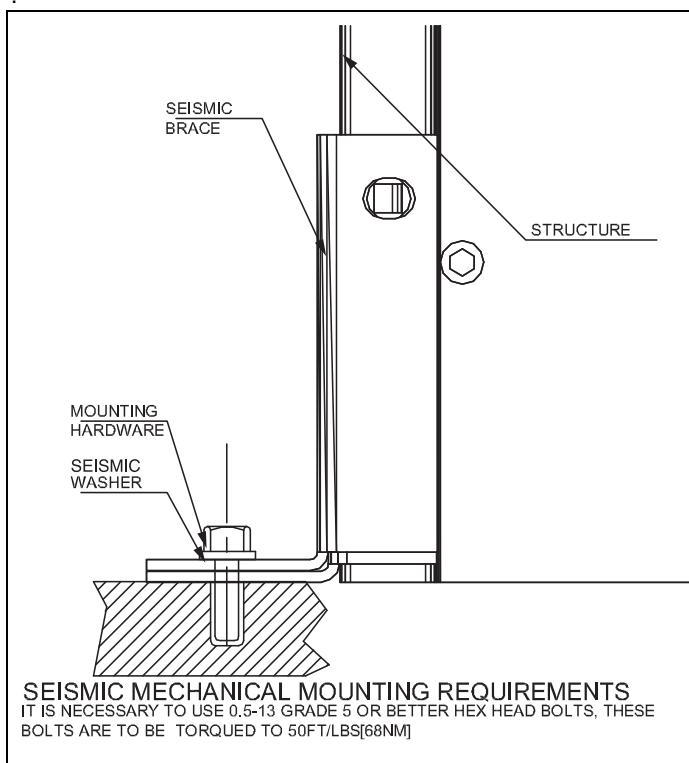

Figure 9. Seismic Tested and Approved Product Mounting Instructions.
Step 3: Bolt the enclosure to the base. Use separate cleats (Option 42 only) if Seismic Uniform Building Code (UBC) Zone 4 certification is desired (Figure 9), and secure with 1/2-13 UNC Grade 5 hex bolts.